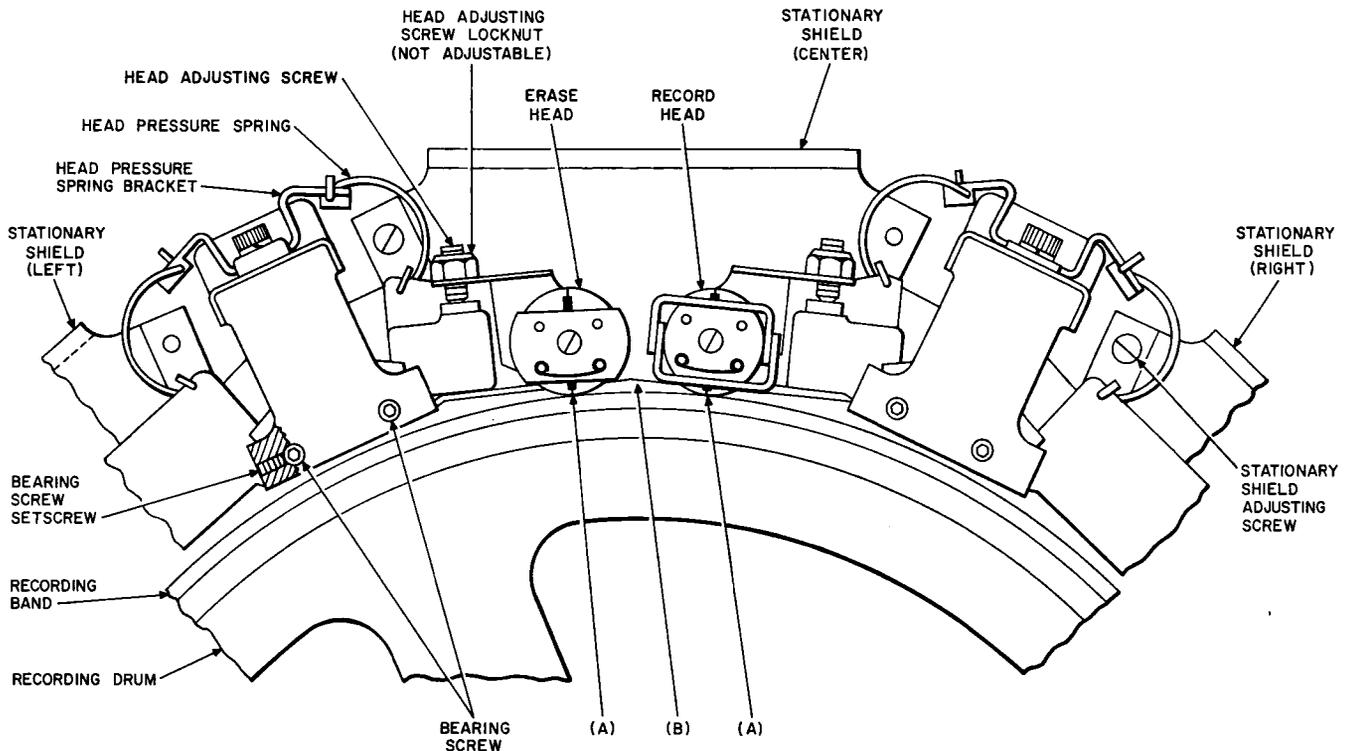

Fig. 5—Erase and Record Heads and Associated Parts
(4) Operate the REC POT key or the RCD key (whichever is provided) and hold operated for two full revolutions of the recording drum while observing the 23A TMS; adjust the RECORD gain control on the associated channel amplifier to obtain a  $-4$  dB indication on the meter.
**Caution:** In the following steps do not attempt to turn the head adjusting screw locknut (Fig. 5) since this is a fixed nut secured to the head adjusting bracket.
**2.07 Pressure of Record and Erase Heads Against Recording Band:** With the recording drum turning, the record and erase heads [Fig. 5 (A)] shall rest on the recording band with the following pressure:
(a) **Fig. 5(B):** The clearance between the stationary shield and the recording band at the closest point shall be